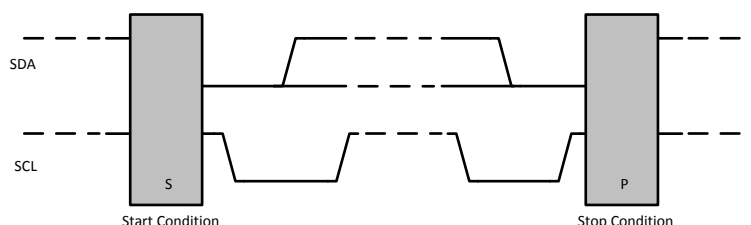

Figure 31. I²C Start and Stop Conditions
The LM36922 is configured via an I²C interface. START (S) and STOP (P) conditions classify the beginning and the end of the I²C session Figure 31. A START condition is defined as SDA transitioning from HIGH to LOW while SCL is HIGH. A STOP condition is defined as SDA transitioning from LOW to HIGH while SCL is HIGH. The I²C master always generates the START and STOP conditions. The I²C bus is considered busy after a START condition and free after a STOP condition. During the data transmission the I²C master can generate repeated START conditions. A START and a repeated START conditions are equivalent function-wise. The data on SDA must be stable during the HIGH period of the clock signal (SCL). In other words, the state of SDA can only be changed when SCL is LOW.